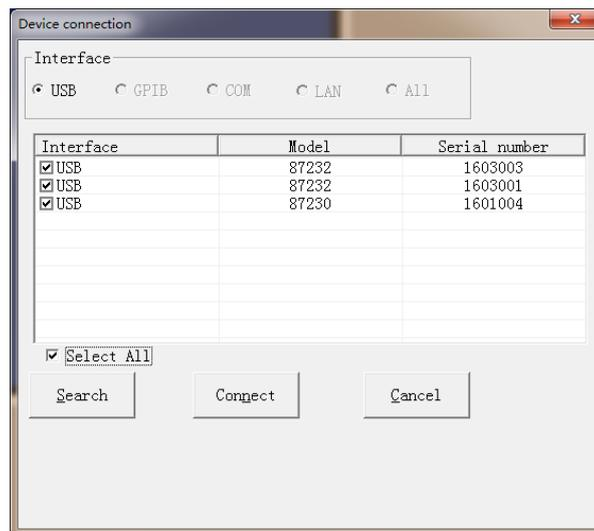

Figure 4.5 Devices Connected with Multiple USB Continuous Wave Power Sensors
**Step 1.** Open the virtual power measurement panel, and the system automatically finds multiple USB continuous wave power sensors that are connected. Select all the power sensors that are connected, and click the "Connect" button, as shown in Figure 4.5, the system automatically displays the USB continuous wave power sensor which is first found and display the measurement result;